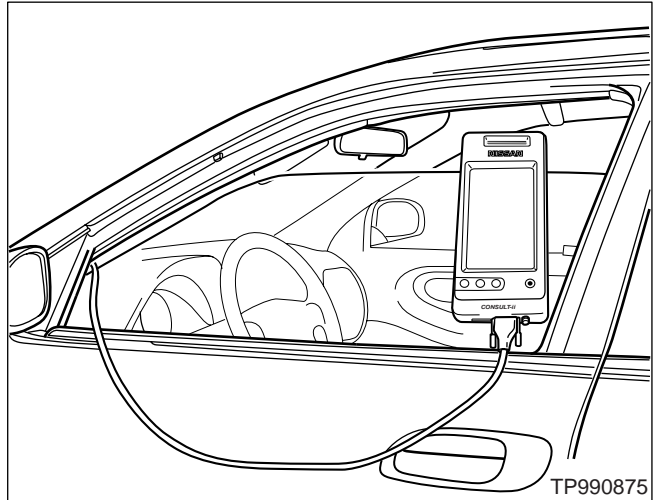

Figure 14
8. Roll down the driver's window part way, exit the vehicle, close the door, and hang the CONSULT II unit on the outside of the window (see Figure 14).